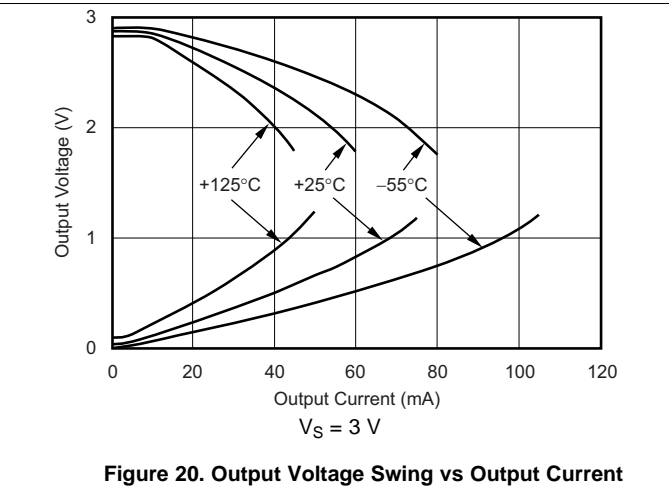
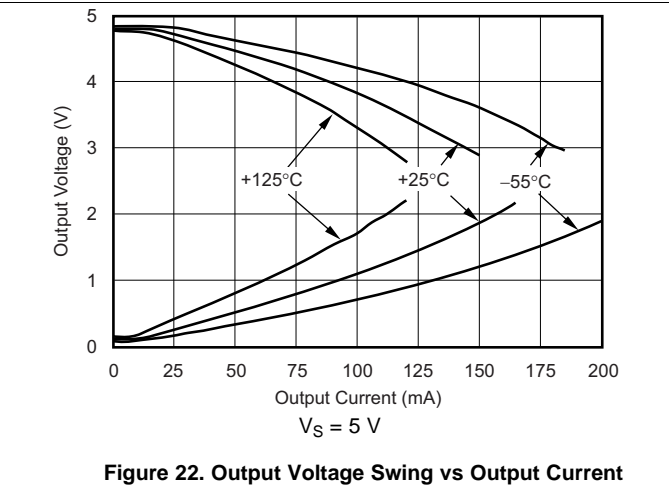
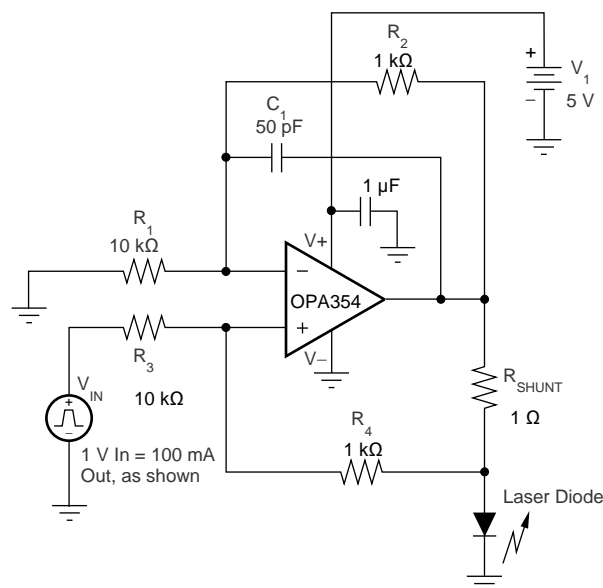
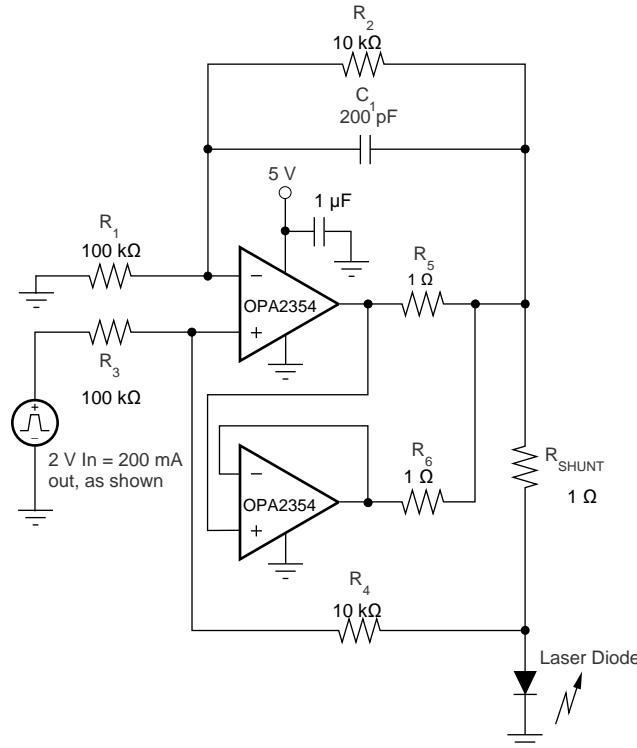

Figure 20. Output Voltage Swing vs Output Current
Figure 22. Output Voltage Swing vs Output Current
Figure 30. Laser Diode Driver
Figure 31. Parallel Operation
(1) See typical characteristic curves, *Output Voltage Swing vs Output Current* (Figure 20 and Figure 22).
(2) Specified by design.
A class AB output stage with common-source transistors achieves rail-to-rail output. For high-impedance loads ($> 200 \Omega$), the output voltage swing is typically 100 mV from the supply rails. With 10- Ω loads, a useful output swing is achieved while maintaining high open-loop gain. See the typical characteristic curves, Output Voltage Swing vs Output Current (Figure 20 and Figure 22).
The OPAX354 output stage supplies a continuous output current of ± 100 mA and yet provide approximately 2.7 V of output swing on a 5-V supply, as shown in Figure 30. For maximum reliability, TI does not recommend running a continuous DC current in excess of ± 100 mA. See the typical characteristic curves, Output Voltage Swing vs Output Current (Figure 20 and Figure 22). For supplying continuous output currents greater than ± 100 mA, the OPAX354 may be operated in parallel, as shown in Figure 31.